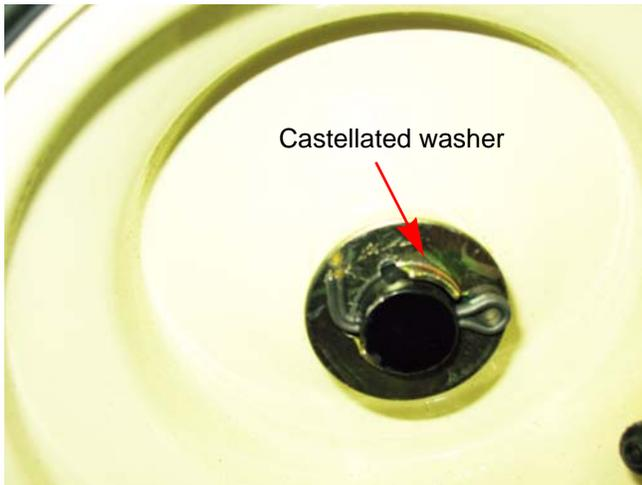

Figure 3A.5
3. Remove the cotter pin and the castellated washer. See Figure 3A.5.